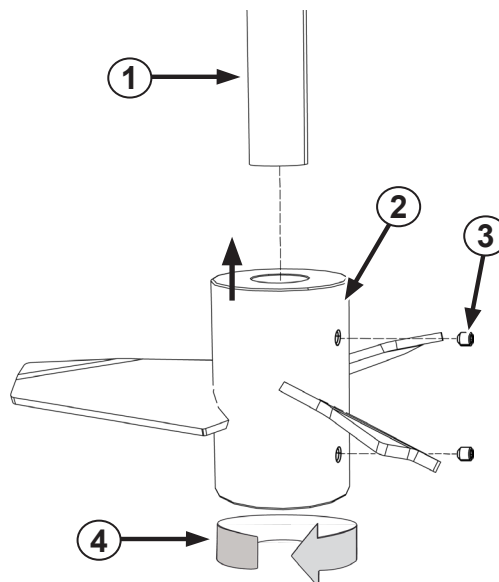

Figure 8. High-Efficiency Impeller
It is important to install the High-Efficiency Impeller (HEI) blades in a specific orientation, see rotation (4) in "Figure 8. High-Efficiency Impeller" below.